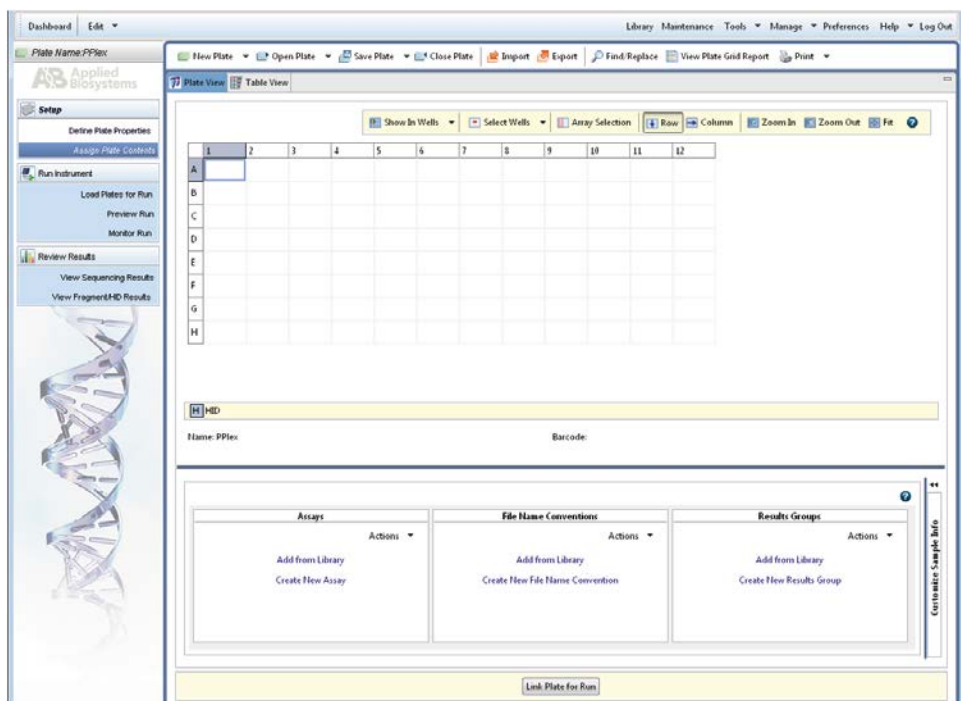

Figure 11. Assigning plate contents.
10. Select “Assign Plate Contents” (Figure 11).